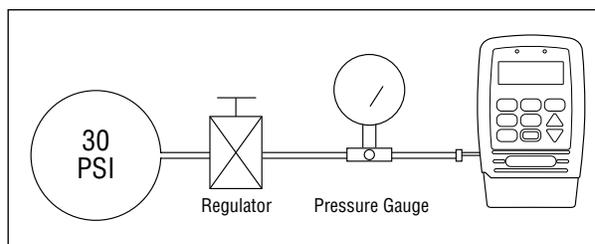

Figure 9. Occlusion test set-up.
3. Assemble the apparatus as shown in Figure 9.